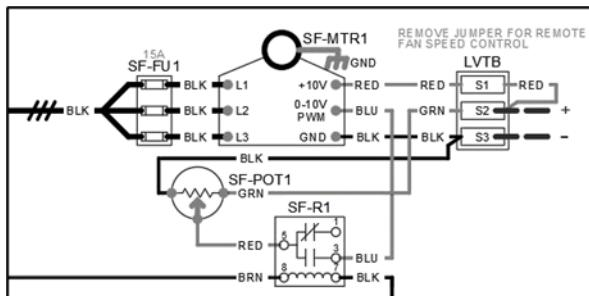

Figure 29: Typical Wiring Diagram with EC Motor
**Note:** The potentiometer is still active in the electrical loop. Refer to Figure 29.